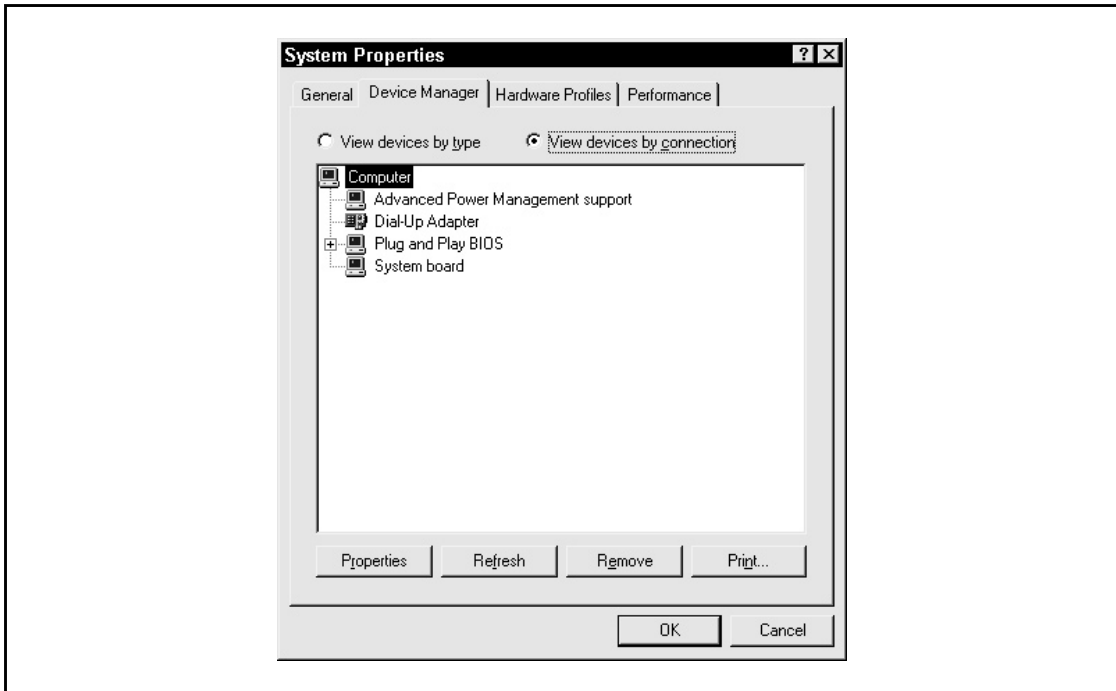

Figure 13-1. The Windows System Properties window
1. From the Windows Desktop, right-click the My Computer icon. From the shortcut menu that appears, choose Properties to display the System Properties window, shown in Figure 13-1.
When you open the Device Manager, its default view lists the PC's devices by type, which means the general category of each device, as shown earlier in Figure 13-1. By clicking the plus sign (+) next to each category, you can expand the device list to show the devices installed in a category.